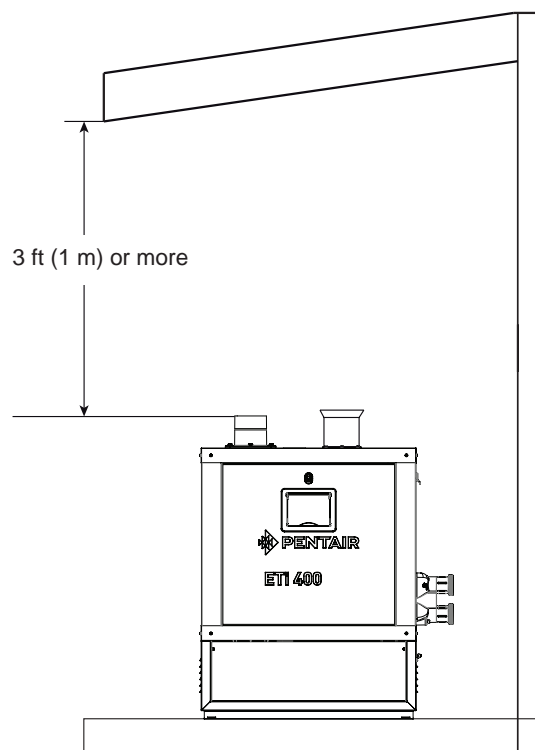

Figure 19.
If the heater is located under a roof or deck overhang, there must be at least three (3) feet (1 m) of clearance between the bottom of the overhang and the top of the heater exhaust vent, see Figure 19. If the heater is under a roof or deck overhang, the space around the heater must be open on three sides. **DO NOT** install the heater under any deck.